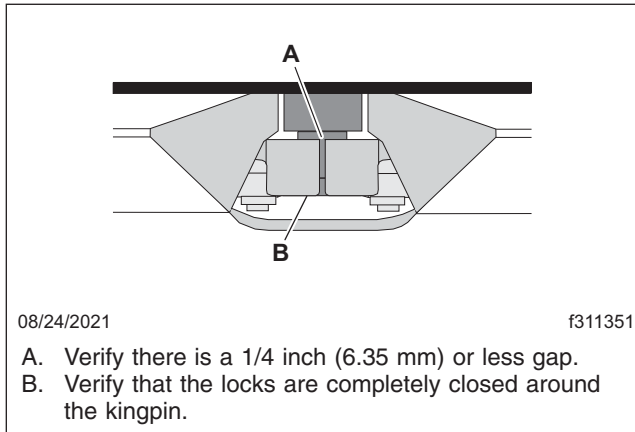

Fig. 17.13, Kingpin Locked in Holland FW35/31 Fifth Wheel Jaws
- Verify that the kingpin is securely locked as shown in Fig. 17.13.